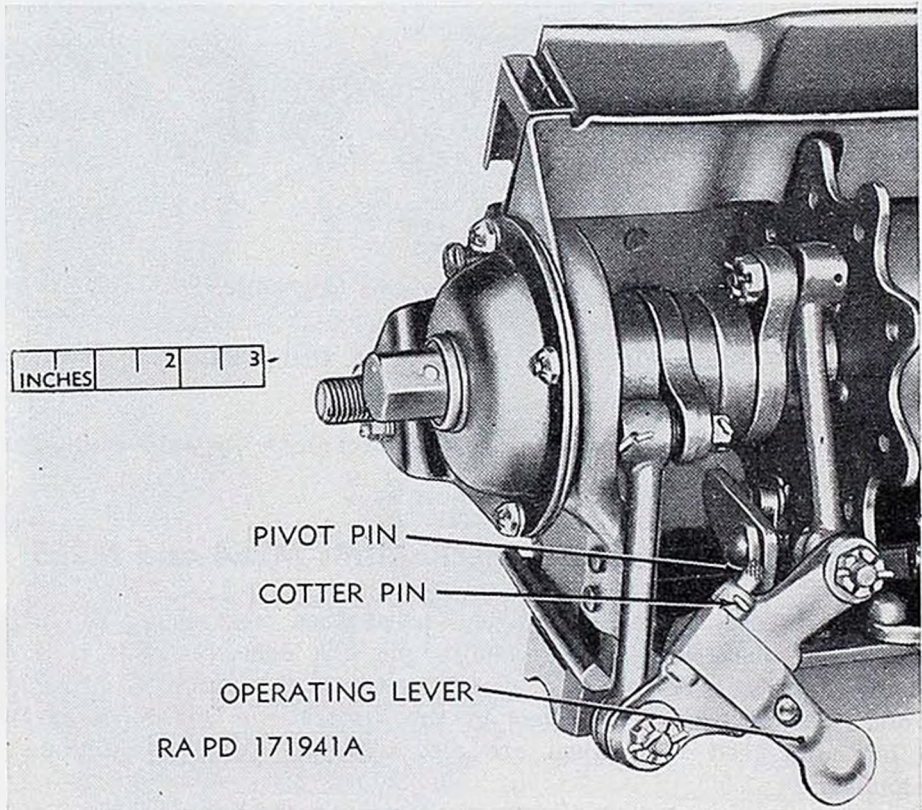

Figure 150. Removal of parts from front end of feed mechanisms M2E4 and M2E5.
c. Remove the four screws and lock washers and withdraw electrical connector receptacle from receptacle mounting bracket (figs. 150 and 151).
n. Remove cotter pin, pull out pivot pin, and remove operating lever (fig. 150). Push link operating crank retainer upward and remove it.